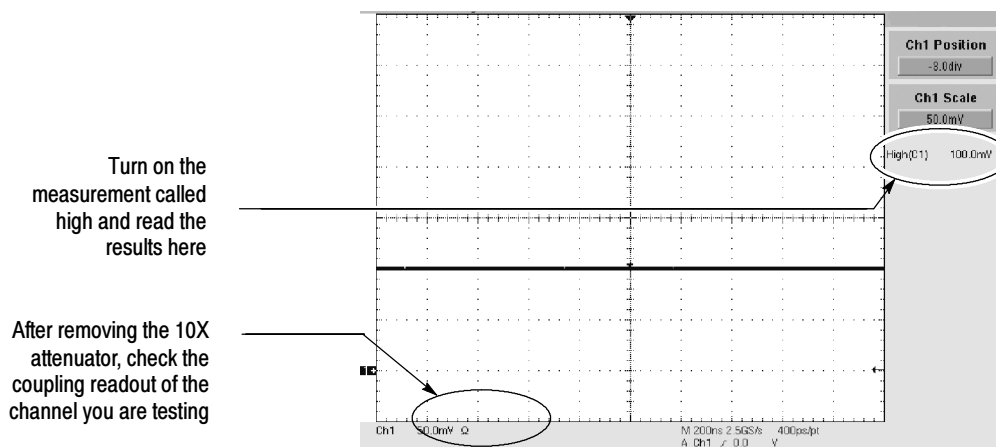

Figure 4-6: Check of maximum input voltage
- d. *Display the test signal:* Set the generator to the level and polarity indicated in the table for the vertical scale, position, and offset settings that you have made, or set the generator for the readout indicated in the table for the vertical scale, position, and offset settings that you have made. See Figure 4-6.